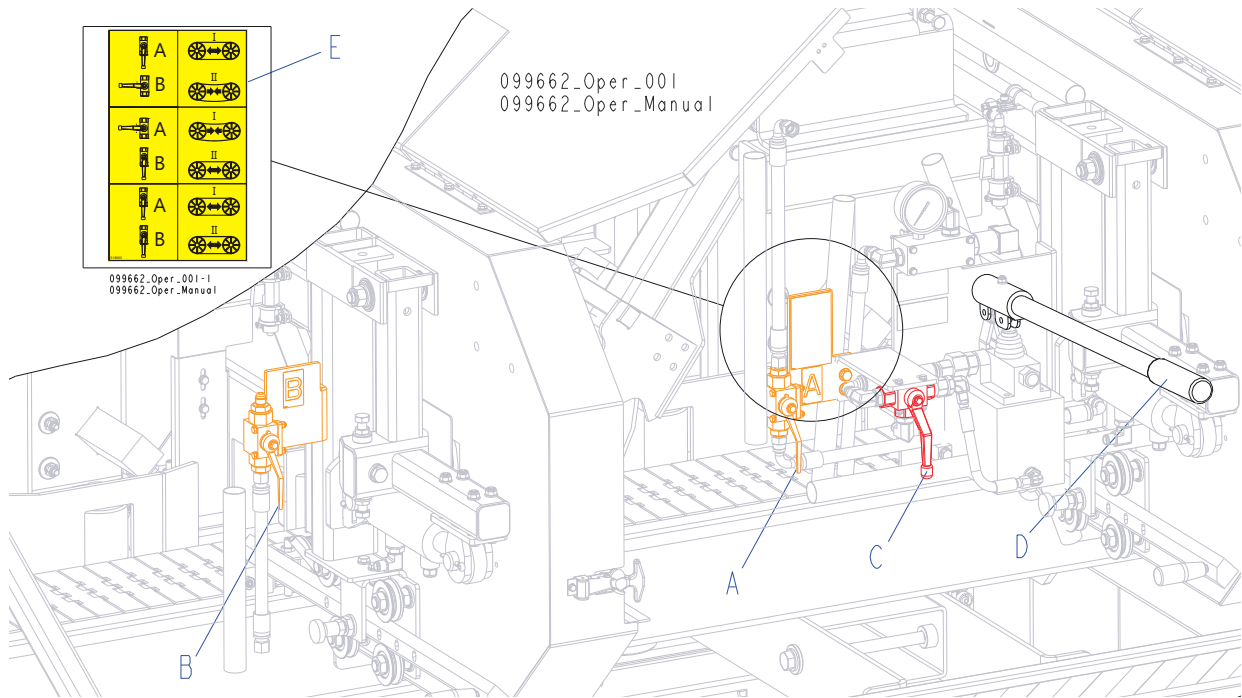

FIG. 2-13
**See Figure 2-13.** Place the provided handle ("D") in the blade tensioner socket and secure it with the bolt.